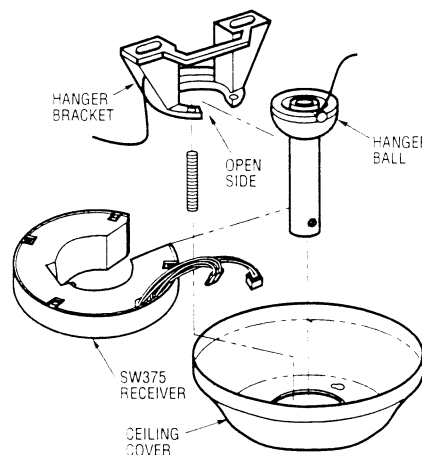

Figure 9
14. Position the receiver by passing the opening in the receiver over the hanger pipe (Figure 9).
17. Fold and position the wires into the space above the hanger ball and into the outlet box (Figure 9).